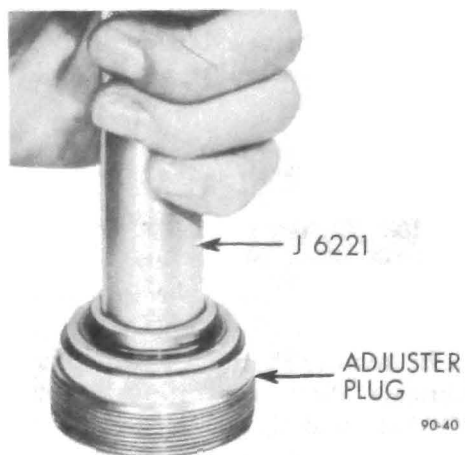

Figure 90-51 Removing Needle Bearing
5. Inspect needle bearing in adjuster plug and if rollers are broken or pitted, remove needle bearing by pressing from thrust bearing end using tool J-6221 and discard bearing. See Figure 90-51.